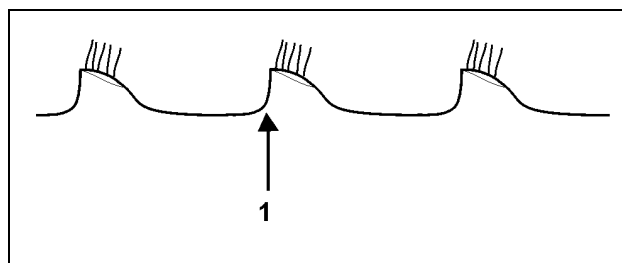

Fig. 33
- The cutting edge of the 2nd disc row is not visible and follows the 1st disc row (Fig. 33):